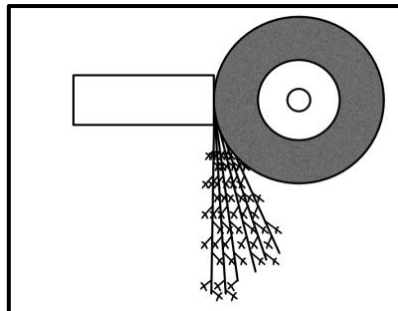

FIGURE 3.4.1
- 3.4 Identify the type of steel/iron from the spark patterns shown in FIGURES 3.4.1–3.4.3 below.